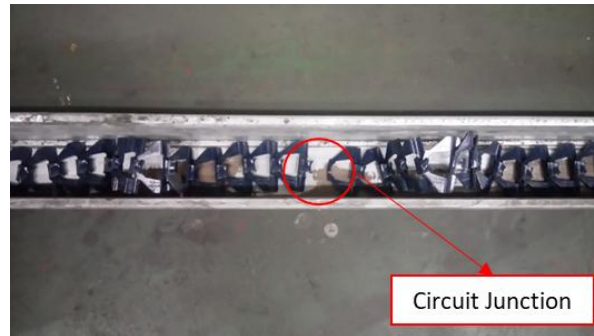

Figure 13
- 3.3 The chain must be placed in the circuit trough and the 2 ends brought together at the **circuit junction**. Refer to Figure 13.